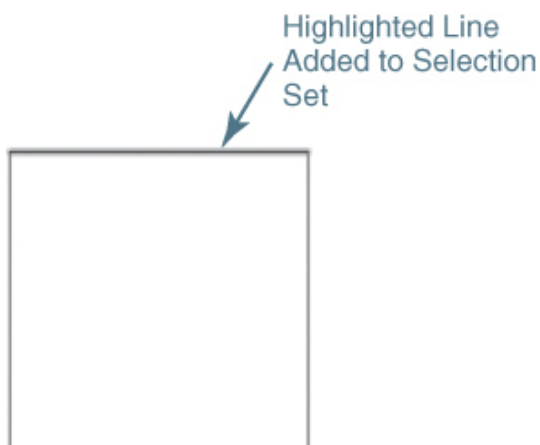

Figure 7-4
Picking an object adds it to the current selection set and highlights it. See Figure 7-4.
- 5 Select the top line as shown in Figure 7-4 and press **<Enter>**. The line is erased.
- 8 Select the top line as shown in Figure 7-4.
- 10 Type **U<Enter>** three times so that only the top line is highlighted as shown in Figure 7-4.